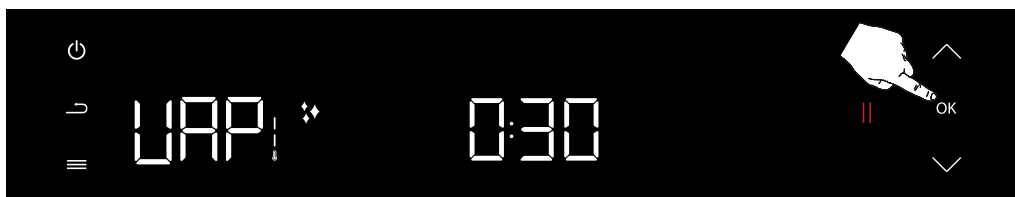

Figure 32
Press the confirm button (OK) once to confirm the steam cleaning function selection. (see figure 32)